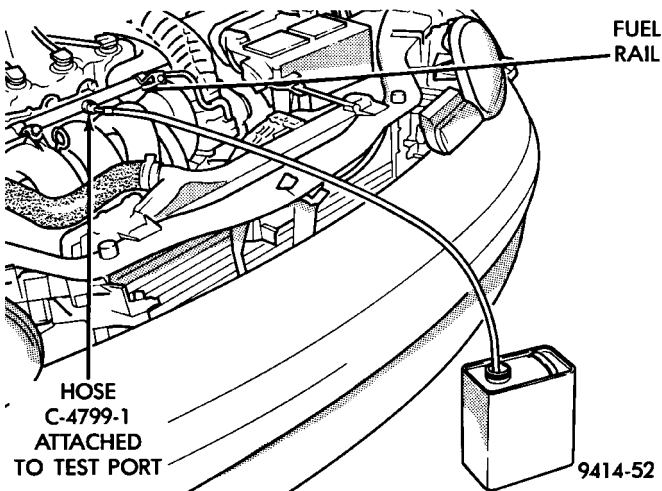

Fig. 12 Releasing Fuel Pressure
- (4) Place the open end of fuel pressure release hose, tool number C-4799-1, into an approved gasoline container. Connect the other end of hose C-4799-1 to the fuel pressure test port (Fig. 12). Fuel pressure will bleed off through the hose into the gasoline container. Fuel gauge C-4799-A contains hose C-4799-1.